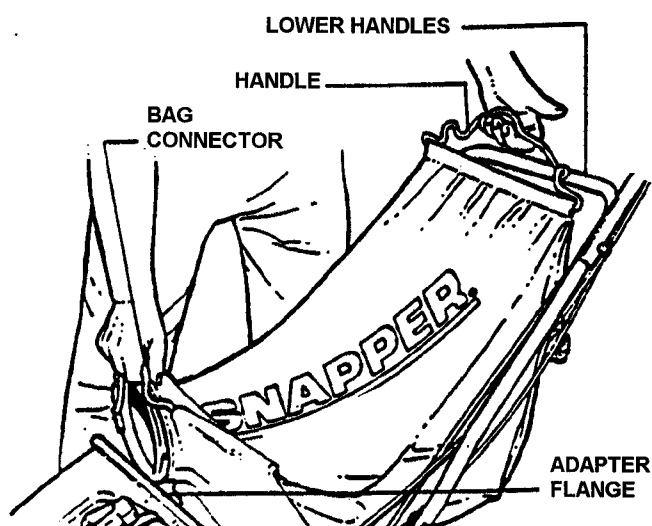
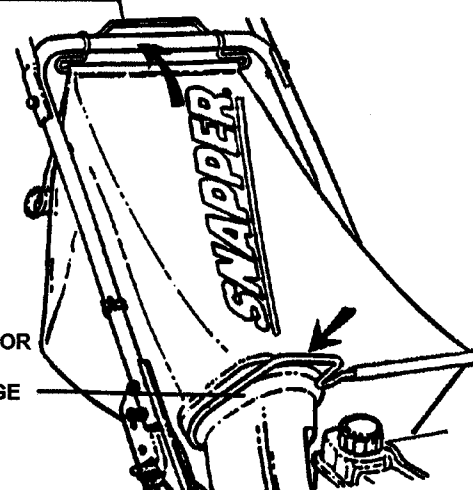

FIGURE 5
FIGURE 6
STEP 5: Position grass bag between handles. See Figure 5. Install grass bag by sliding connector over flange of adapter. Attach grass bag hooks over lower handle cross bar. See Figure 6.